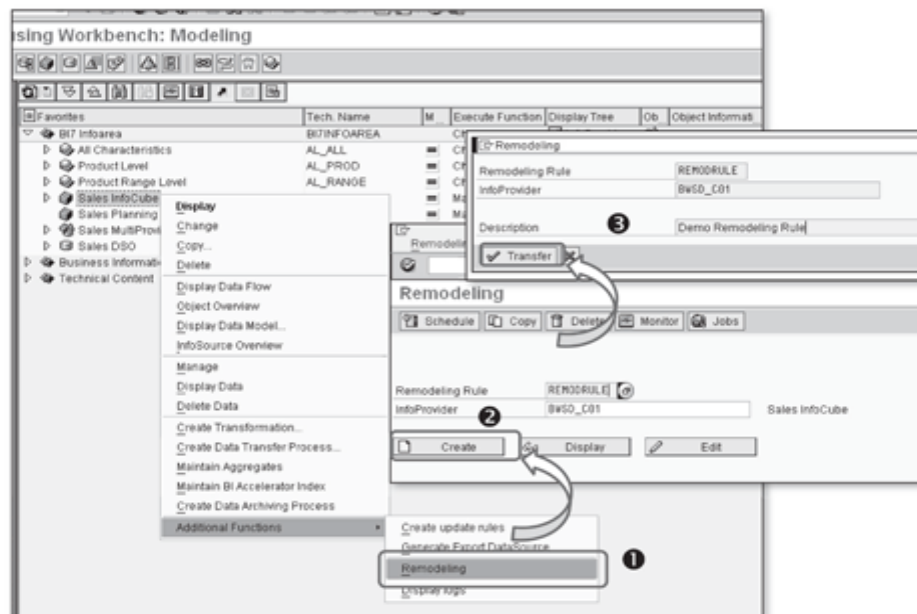
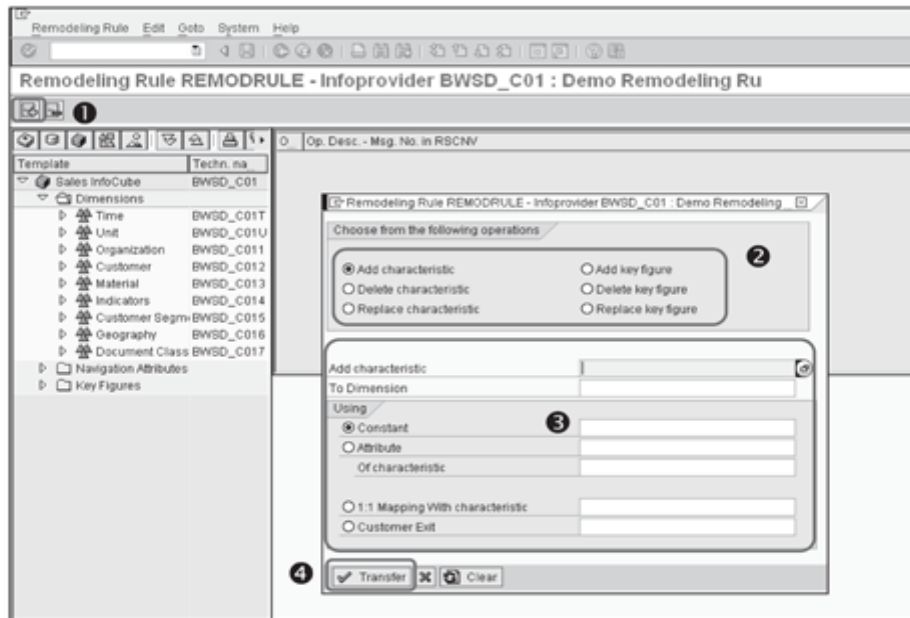

Figure 15.12 Create Remodeling Rules
Figure 15.13 Define Operations
To create or maintain the remodeling rules for an InfoCube, select **ADDITIONAL FUNCTIONS • REMODELING** from the context menu of the InfoCube in Transaction RSA1 (❶ of Figure 15.12).
This takes you to a screen where you can specify the name of the rule and the Info-Provider. To create a new rule, click on the Create button (❷ of Figure 15.12). A pop-up box appears to enter the description of the rule. Enter the description, and then click the Transfer button (❸). On the next screen, you can define the rule for the selected InfoCube (Figure 15.13).
Click on the icon shown in ❶ of Figure 15.13 to add an *operation* to the rule. A pop-up box appears in which you can select the type of operation you want to perform (❷); maintain the parameters and logic for the operation in the bottom part of the pop-up box (❸).
Once it's completely defined, save the remodeling rule, and return to the previous screen. You can execute this rule by using the Schedule button shown earlier in Figure 15.12.